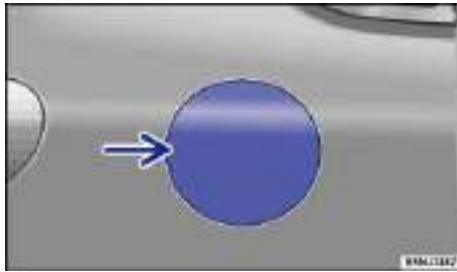

Fig. 157 Right rear side of vehicle: Opening the fuel filler flap.
- Press on the back part of the fuel filler flap ⇒ fig. 157 (arrow) and fold open.